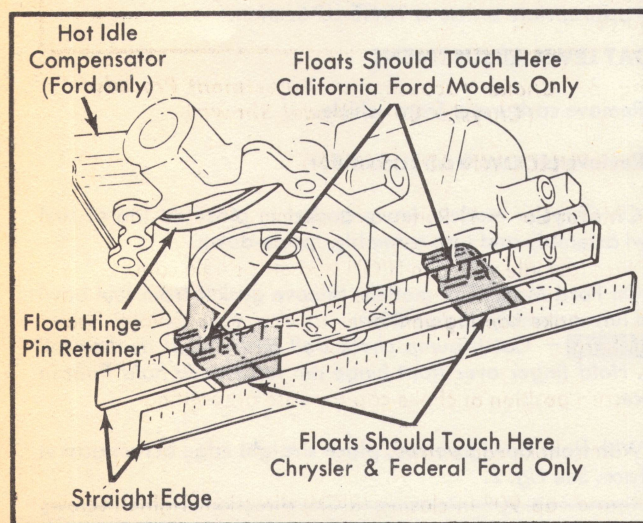

Fig. 2 Using Straight Edge To Check Float Level (Ford Shown — Chrysler Similar)
- 5) With float bowl inverted, place straight edge across gasket surface. See Fig. 2.
NOTE — On Ford Motor Co. California applications, floats should touch straight edge at heel or stepped area of floats. See Fig. 2.